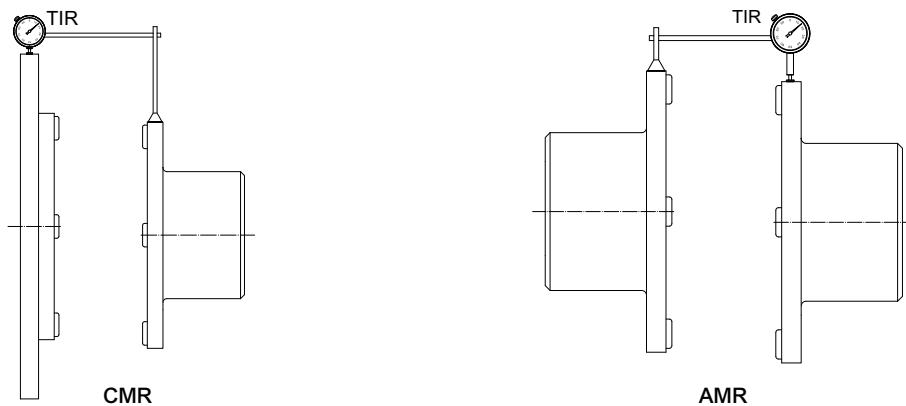

Figure 7 - Parallel Misalignment “TIR” (Total Indicated Reading)
- 8.5. When Parallel Offset is measured by rotating the hubs with dial indicators as shown in Figure 7, the total indicated reading (TIR) should be divided by (2) to calculate “P”.